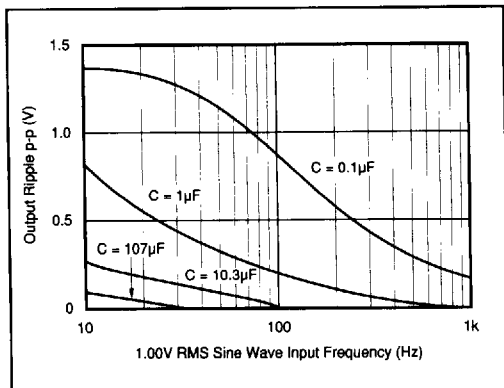
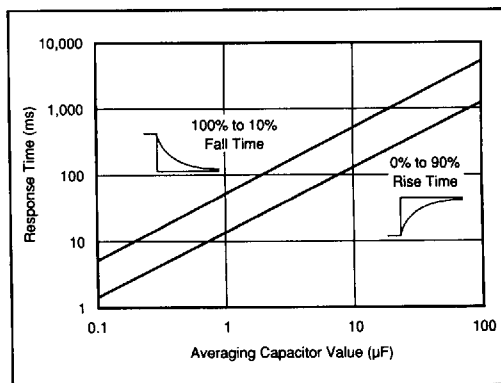

FIGURE 2. Output Ripple Magnitude vs Input Signal Frequency.
FIGURE 3. Response Time vs Value of Averaging Capacitor.
NOTES: (1) After standard trim procedure (see below). (2) Model 4341 will convert DC inputs. Lower frequency AC inputs require a large value of averaging capacitor to minimize ripple at output. (see Figure 2).
Figures 2 and 3 show the effects of the external filter capacitor on ripple magnitude and response time. As the frequency of the input approaches DC, the 4341 begins to act like a full wave rectifier such that the output is the absolute value of the input. While the 4341 will accurately convert DC input voltages, the averaging capacitor must be made very large to minimize ripple at low frequencies.
A single-pole low-pass RC filter provides the averaging function. The time constant is $1/2 RC$ where R is $10k\Omega$ when the 4341 is adjusted for unity gain. To select the best value of C , make a tradeoff between output ripple and response time. Figure 2 shows the ripple magnitude vs frequency for several typical values of capacitor. Response time vs capacitor value is shown in Figure 3. (Note that rise times and fall times are different for the same value of capacitor).